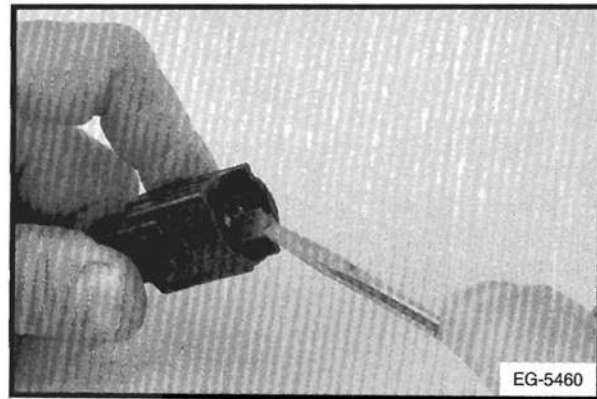

Figure 6-28. - Insert Terminal Lock
3. Insert the locking wedge and push in until flush with the face of the connector body (Figure 6-28.).